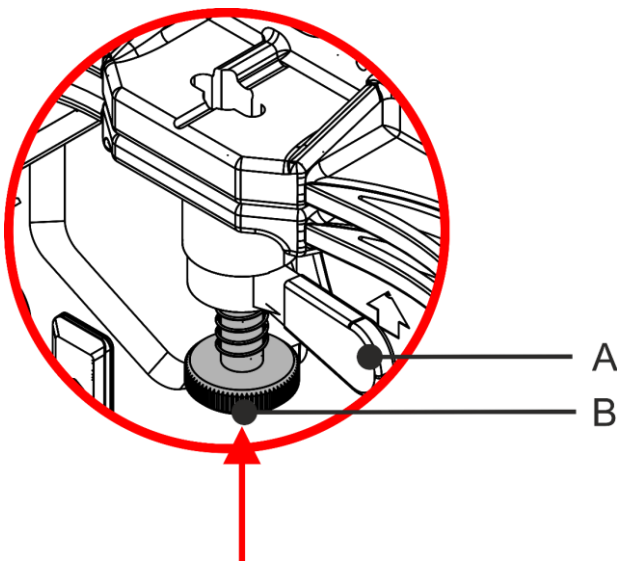

Fig. 09
- 01) Turn the **lever (A)** counterclockwise.
- 02) Push the **spring-loaded fast-lock (B)** and turn it by 90° clockwise or counterclockwise, as shown in Fig. 09 and 10.